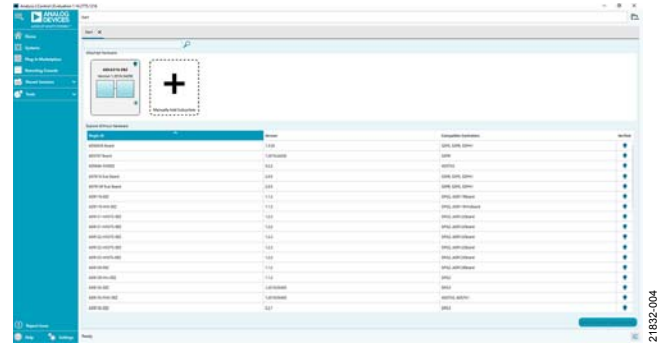

Figure 3. ACE Plugin View
1. Double-click the **ACE** shortcut on the PC desktop of the computer (if created). The software automatically detects the ADL6316-EVALZ evaluation board. The software opens the **ACE** plugin view, as shown in Figure 3